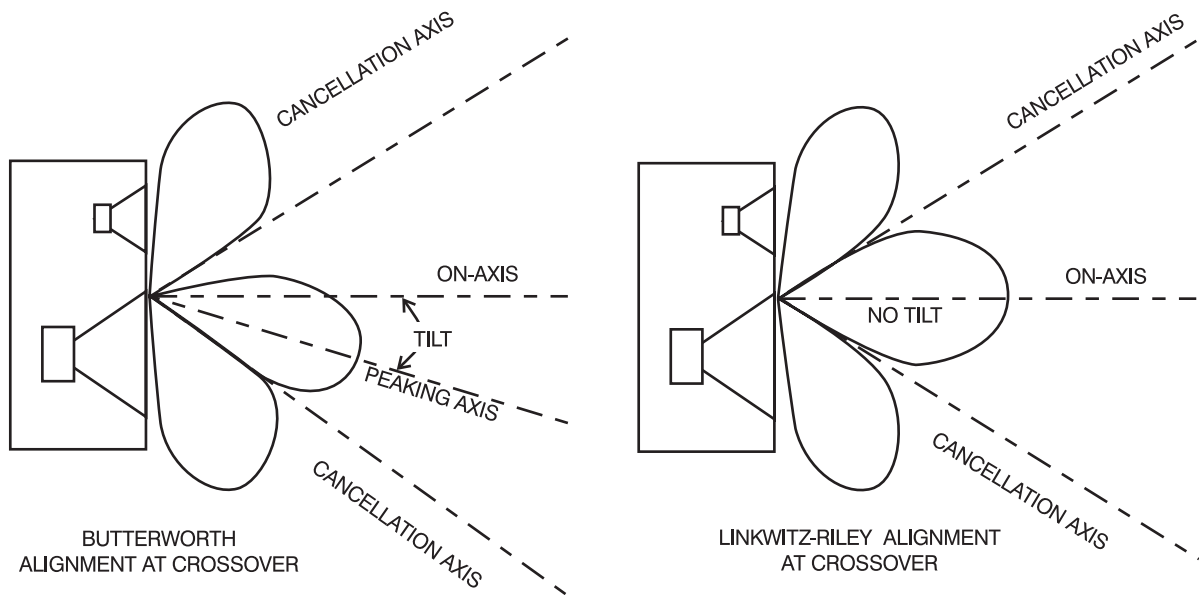

Figure 12. The radiation angle of a loudspeaker
- The radiation angle of the loudspeaker's output. Different crossovers cause differences in the angle at which the combined output of the various drivers reaches a maximum. Figure 12 illustrates the concept of radiation angle. The change in radiation angle is also frequency sensitive. At frequencies near the crossover point, both drivers contribute to the total acoustic output. The change in radiation angle occurs because of the frequency sensitive phase shift that occurs in the crossover region. At frequencies far removed from crossover, the radiation patterns shifts to that of the individual drivers.